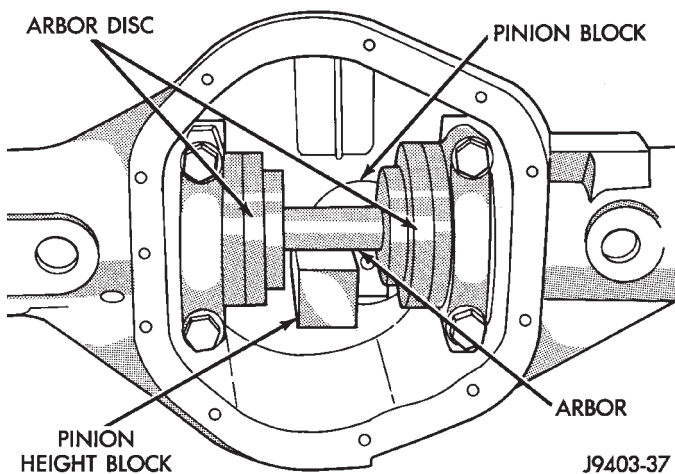

Fig. 27 Gauge Tools In Housing
(2) Place Arbor Disc 6732 on Arbor D-115-3 and position in the bearing cradles (Fig. 27). Install differential bearing caps on Arbor Discs and tighten caps snug only.